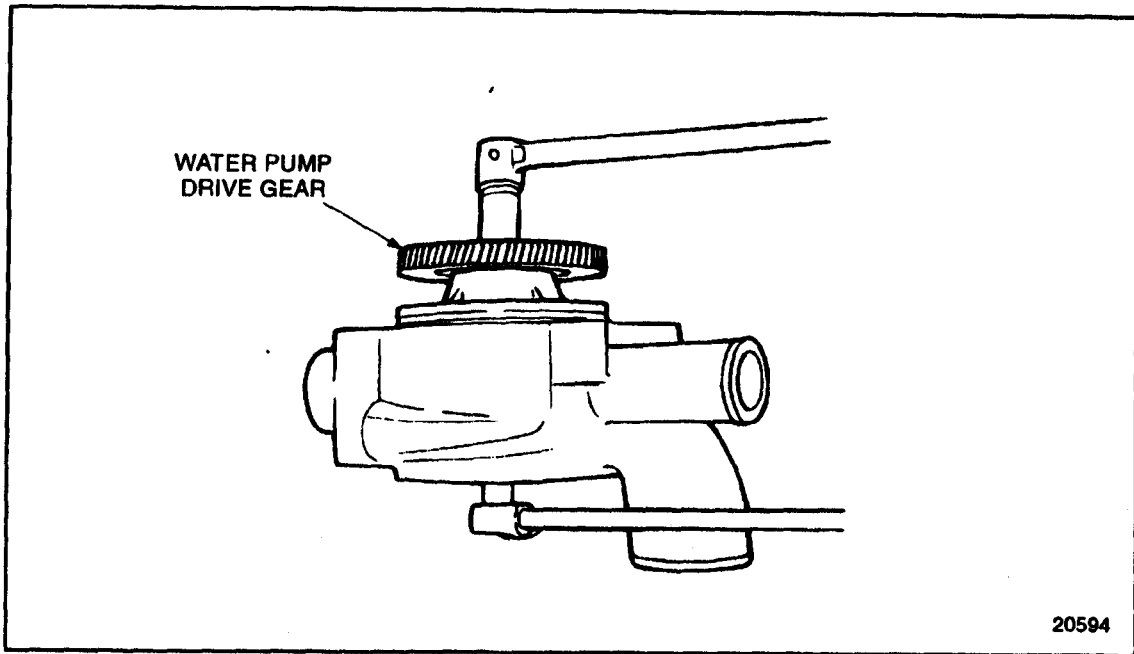

Figure 4-12 Water Pump Drive Gear Retaining Bolt Removal (GCM)
3. Hold square end of water pump shaft and remove water pump drive gear retaining bolt and washer. See Figure 4-12.